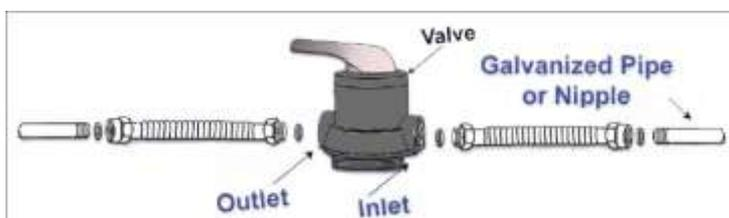

Figure 10
- Soldering is no longer required to plumb with copper pipe. Instead, use 3/4" or 1" compression fittings. Connect plumbing as shown below *Figs 10, 11 & 12*. **Turn fittings clockwise to tighten. Do not over tighten.**